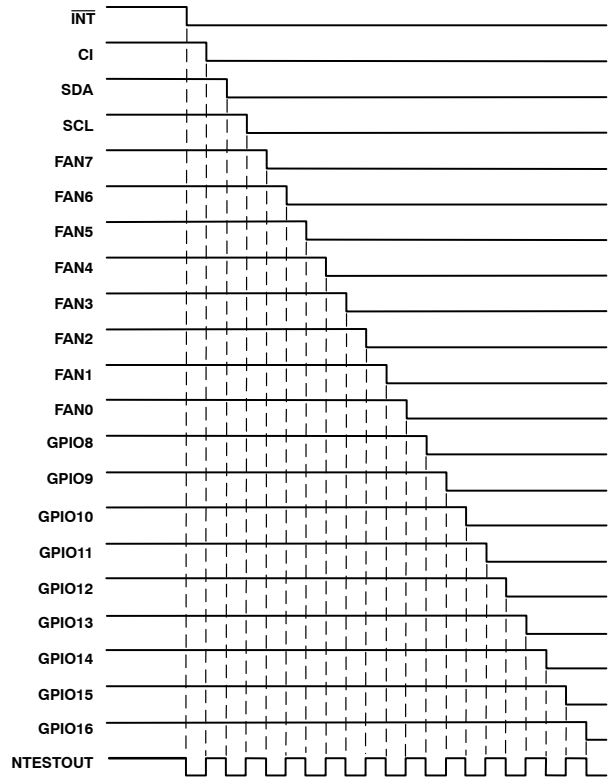

Figure 57. NAND Tree Test Taking Inputs Low in Turn
2. Start with all inputs high and take them low in turn, starting with the input furthest from $\overline{\text{NTEST_OUT}}$ ($\overline{\text{INT}}$) and working down the tree to the input nearest to $\overline{\text{NTEST_OUT}}$ (GPIO16/ $\overline{\text{THERM}}$). This should give a similar output pattern to Figure 57.